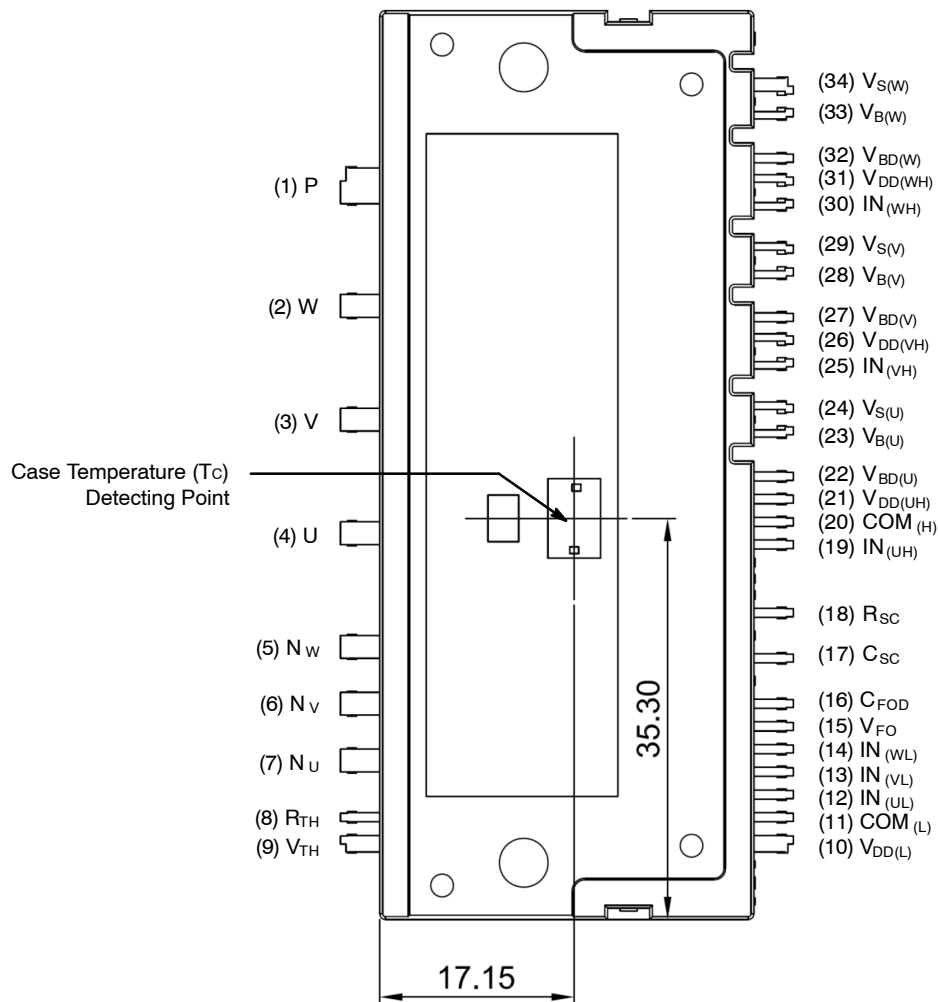

Figure 1. Pin Configuration – Top View
- 1200 V - 25 A IGBT inverter for three-phase DC / AC power conversion (Please refer to Figure 1)
- For the measurement point of case temperature (T_C), please refer to Figure 1. DBC discoloration and Picker Circle Printing allowed, please refer to application note AN-9190 (Impact of DBC Oxidation on SPM® Module Performance).